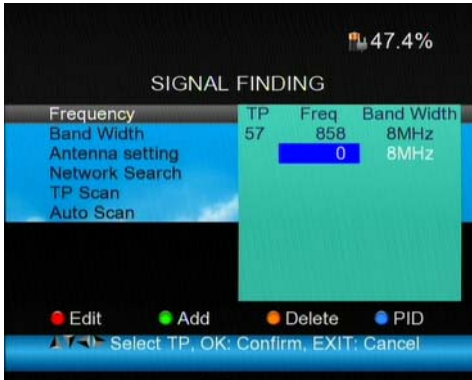

Figure10. Add Frequency
- (4) Add frequency: Press <GREEN> button to add the frequency by numeric numbers. Press <Up/Down> button to select the Band Width. And then Press <OK> button to confirm the operation and save the result. Or press< EXIT> button to cancel the operation. See figure 10.